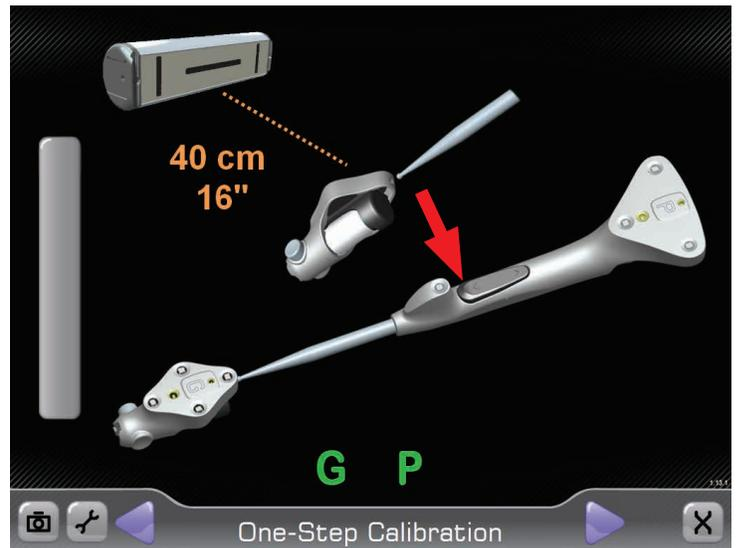

Figure 7
The *One-Step Calibration* screen is displayed (Figure 7). Place the tip of the ProbeTracker (P) into the dimple node at the top of the Guide Tracker (G). Hold both together approximately 16 inches from the display unit ensuring the white diodes are facing the camera. When positioned correctly, the "G" and "P" status indicators on the display will appear green. Press the Forward button on the probe to initiate calibration. The progress bar will fill and an audible tone will indicate successful calibration. The system will automatically advance to the next screen.